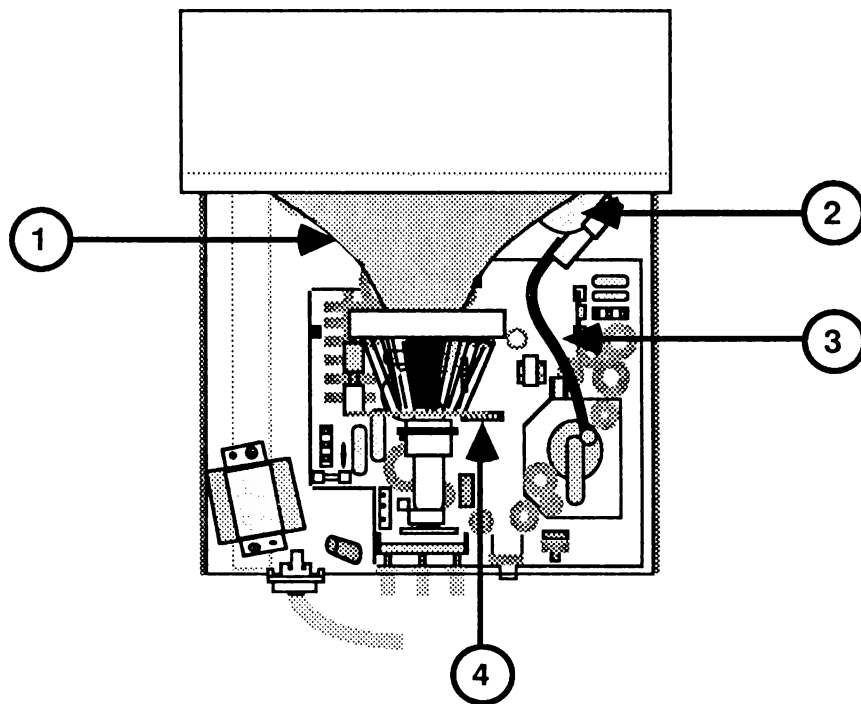

FIGURE 1
1. During these adjustments your hand will come close to extremely high voltages on the tube, anode, anode lead, and yoke wires (Figure 1, #1, #2, #3, and #4). Avoid touching these parts.